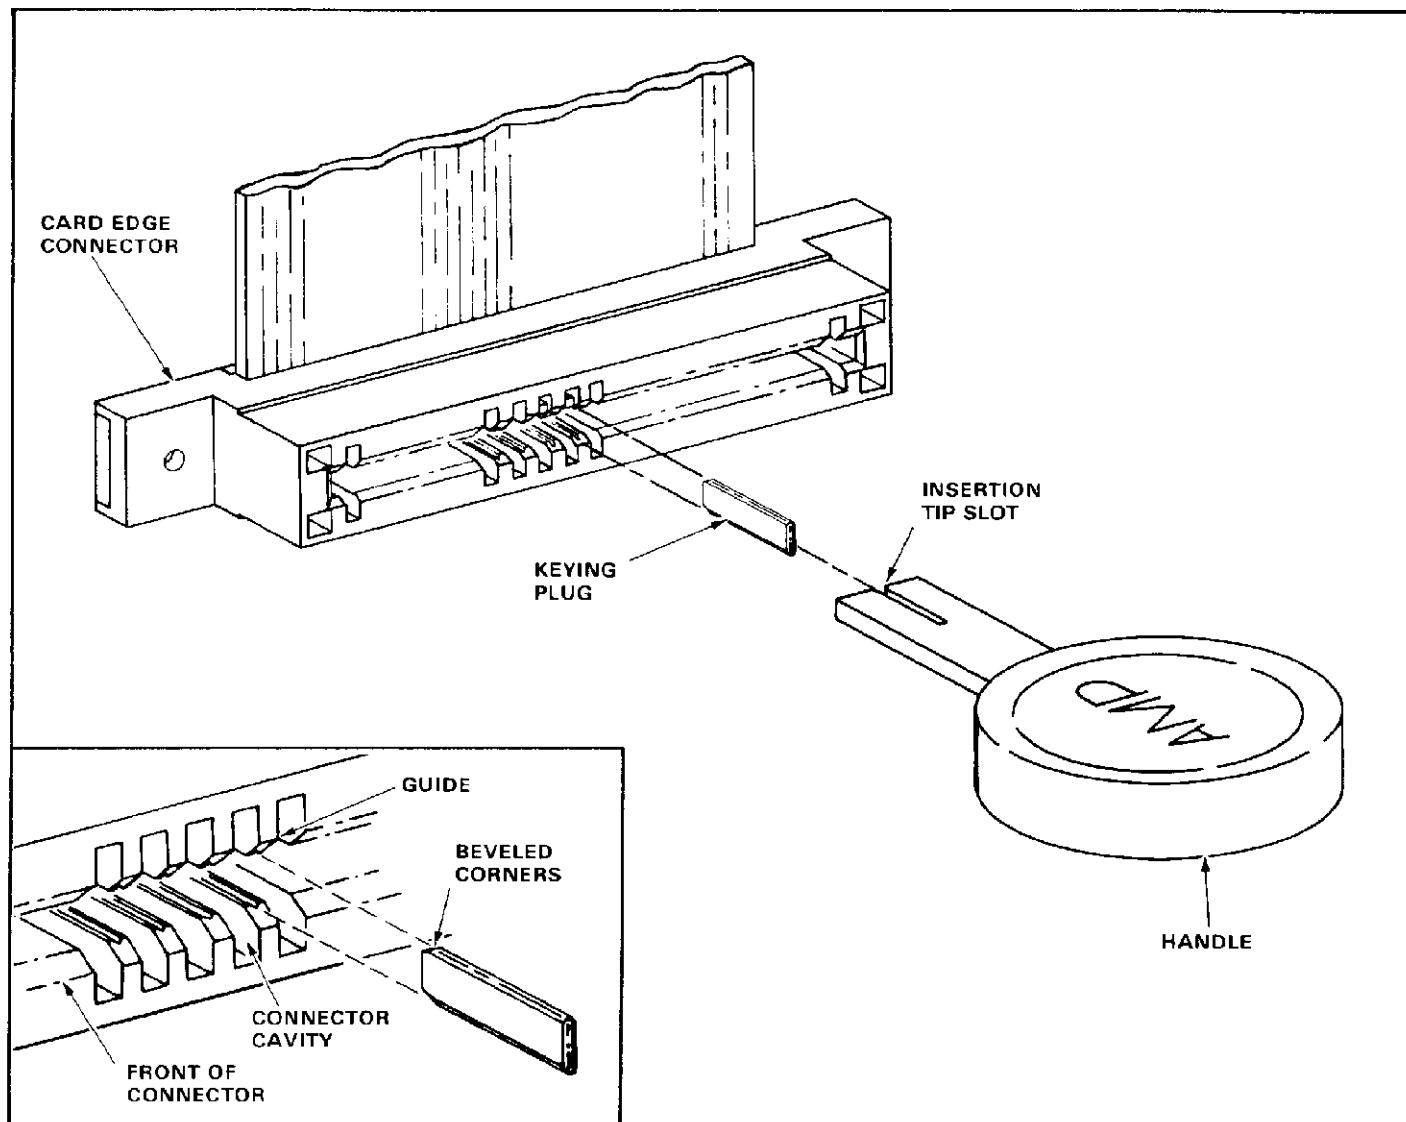

Fig. 1
2. DESCRIPTION (Figure 1)
3. INSERTION PROCEDURES (Figure 1)